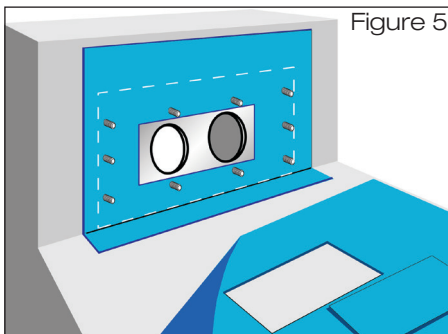

Figure 5
- 1.5 Unroll the **bituminous** or **plastic** vapour barrier sheet. Make a rectangular cut in the vapour barrier sheet in the region of the sliding flange - 270 x 130 mm (fig. 5). The loose flange can be used as a template. Roll back the vapour barrier sheet.